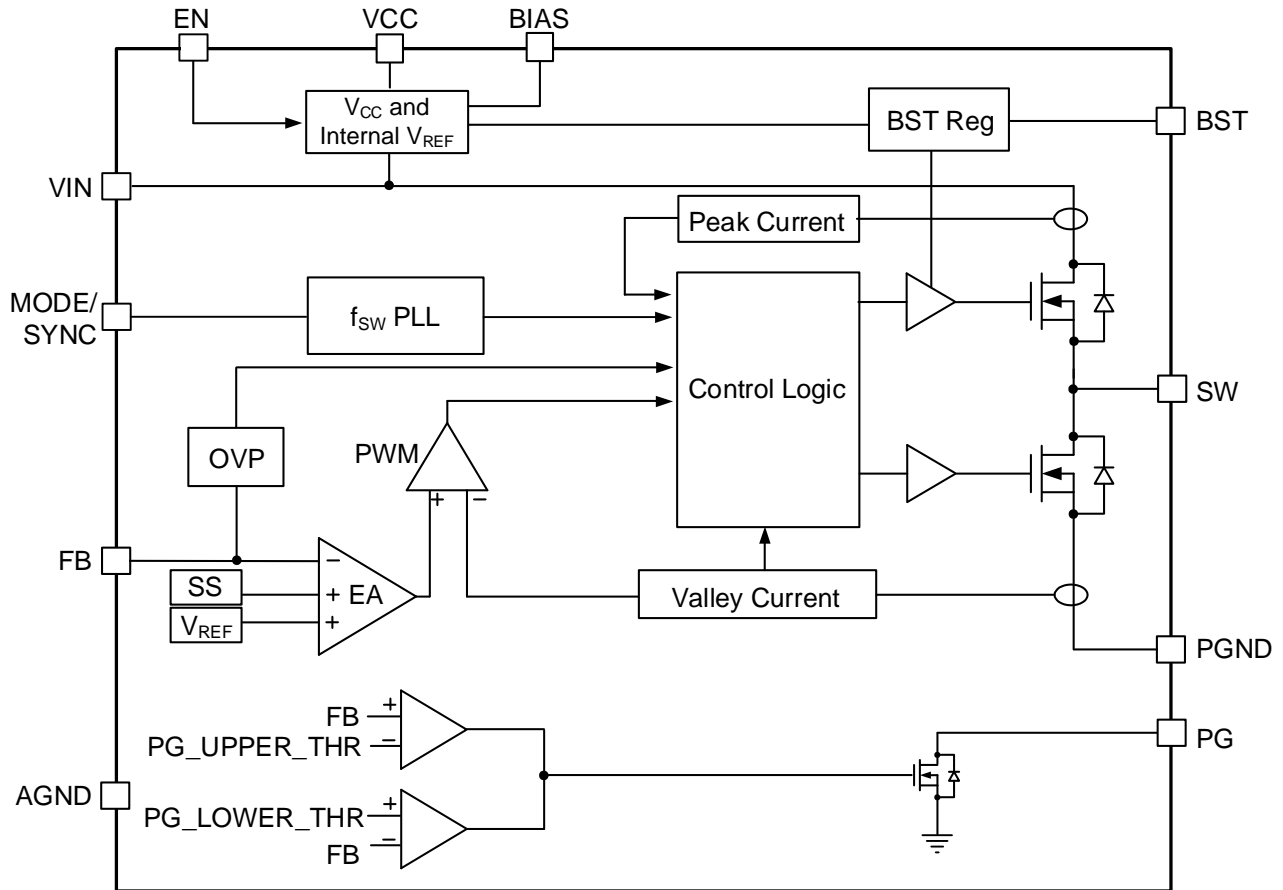

Figure 1: Functional Block Diagram
The MP4582 is a synchronous, step-down, switching converter with integrated high-side and low-side power MOSFETs (HS-FET and LS-FET, respectively). It provides a highly efficient solution with internal compensation, featuring a wide input voltage (V_{IN}) range, internal soft-start (SS) control, and precise current limiting. Its low operational quiescent current (I_Q) makes it suitable for high efficiency in light-load applications. Figure 1 on page 11 shows the internal block diagram, and the following sections describe the MP4582's detailed functionality.